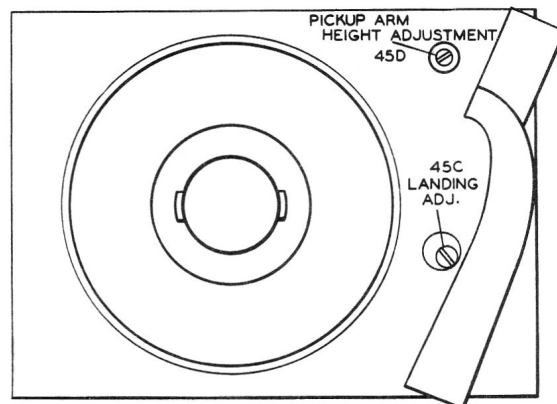

Figure 42—Height and Landing Adjustment Studs.
- After the tripping adjustment has been made as described above, turn the eccentric landing adjustment stud (45C) so that the sapphire will set down on the record half-way between the outer edge and the first music groove. This position is  $2\frac{5}{8} \pm \frac{1}{64}$ " from the turntable spindle. The location of the adjustment stud is illustrated in Figure 42.
Set the mechanism in cycle. Turn the turntable by hand, until the pickup arm has reached its maximum height. By means of a screwdriver turn the height adjustment stud (45D) until the distance between the top of the turntable and the sapphire point is  $\frac{3}{4}$ ". Use that position of the eccentric stud which causes the pickup arm to rise during clockwise adjustment of the stud. The location of the adjusting stud is illustrated in Figure 42.